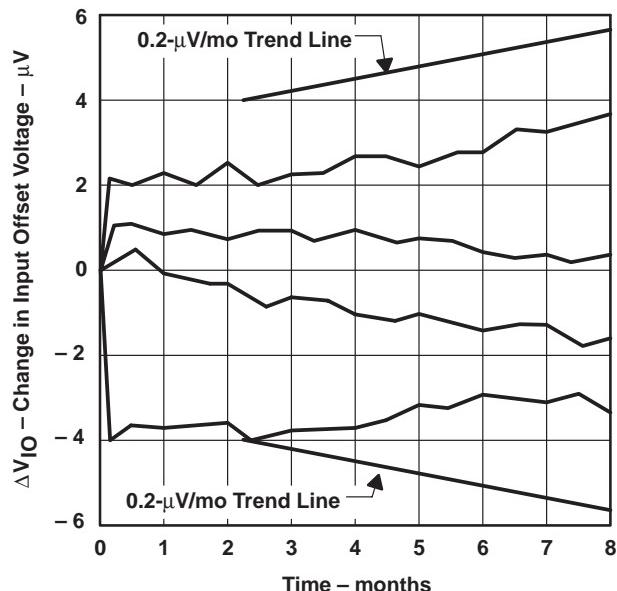

Figure 3
4. Long-term drift of input offset voltage refers to the average trend line of offset voltage versus time over extended periods after the first 30 days of operation. Excluding the initial hour of operation, changes in V_{IO} during the first 30 days are typically $2.5 \mu V$ (see Figure 3).